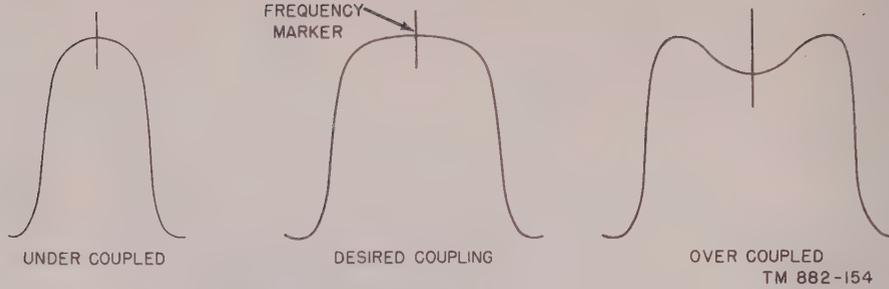
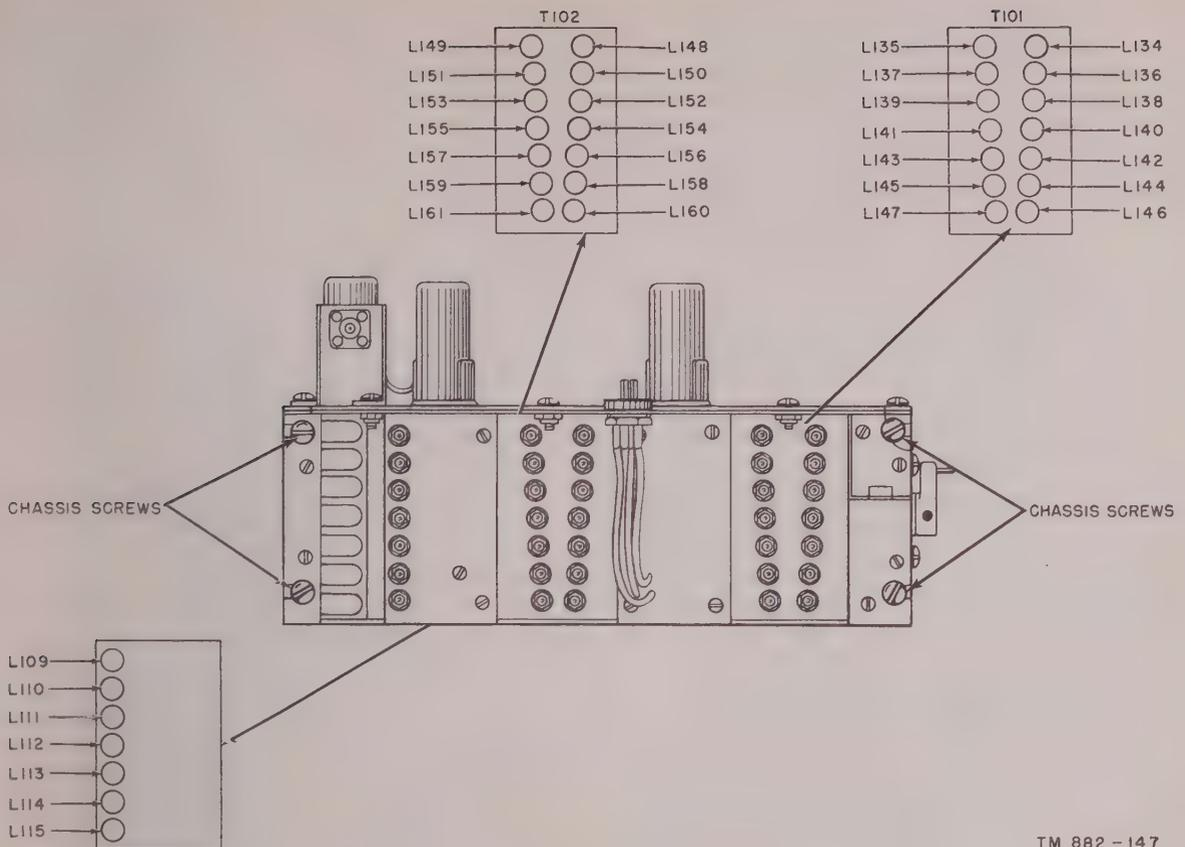

Figure 117. Waveshape chart.
Figure 118. R-f unit, i-f section alinement points.
b. Adjust L115 (fig. 118) for a maximum voltage reading (use alinement tool H379). Set the BAND SELECTOR to bands 2 through 7, adjusting coils L114 through L109 respectively (fig. 118). A minimum injection voltage of $\$.4$ volt must be maintained at the cathode of the second mixer (V112) for all bands.
- (1) Rotate the BAND SELECTOR to band 1 and tune to 29.191 mc. Adjust the sweep-marker generator for a proper sweep and marker at 29.191 mc. Adjust the ANTENNA TRIMMER control (C101) and the trimmers on Z101, Z108, and Z115 for maximum output at marker frequency and correct waveshape as indicated on the scope (fig. 117). Rotate the TUNING dial to 20.302 mc and adjust the sweep-marker generator for 20.302 mc. Adjust slugs on Z101, Z108, and Z115 for maximum output and as close to the correct waveshape as possible. At this point consult the waveshape chart, and determine if the coupling is correct.
- (2) If overcoupling exists at *either* end of the band, tune the receiver and test equipment for that end of the band which shows the greatest degree of overcoupling. Adjust the coupling links of the coils for that band on turrets Z151 and Z152 by moving them along the form *away* from the coil winding. This adjustment should be made in small steps, moving each link approximately the same amount, until the desired waveshape is obtained. Minor retuning may be required after this adjustment.
- (3) If undercoupling exists at *both* ends of the band, tune the receiver and test equipment for that end of the band which most closely approximates the desired waveshape. Adjust the coupling links of the coils for that band on turrets Z151 and Z152 by moving them along the form *toward* the center of the coil winding. This adjustment should be made in small steps, moving each link approximately the same amount, until the desired waveshape
b. Adjust L146, L147, L160, and L161 (fig. 118) for a symmetrical response curve with the 6.0942 mc marker at the center (fig. 117). Re-
c. Change the frequency of the marker generator to 8.6369 mc and set the BAND SELECTOR to band 2. Adjust L144, L145, L158, and L159 for a symmetrical response curve (fig. 117).